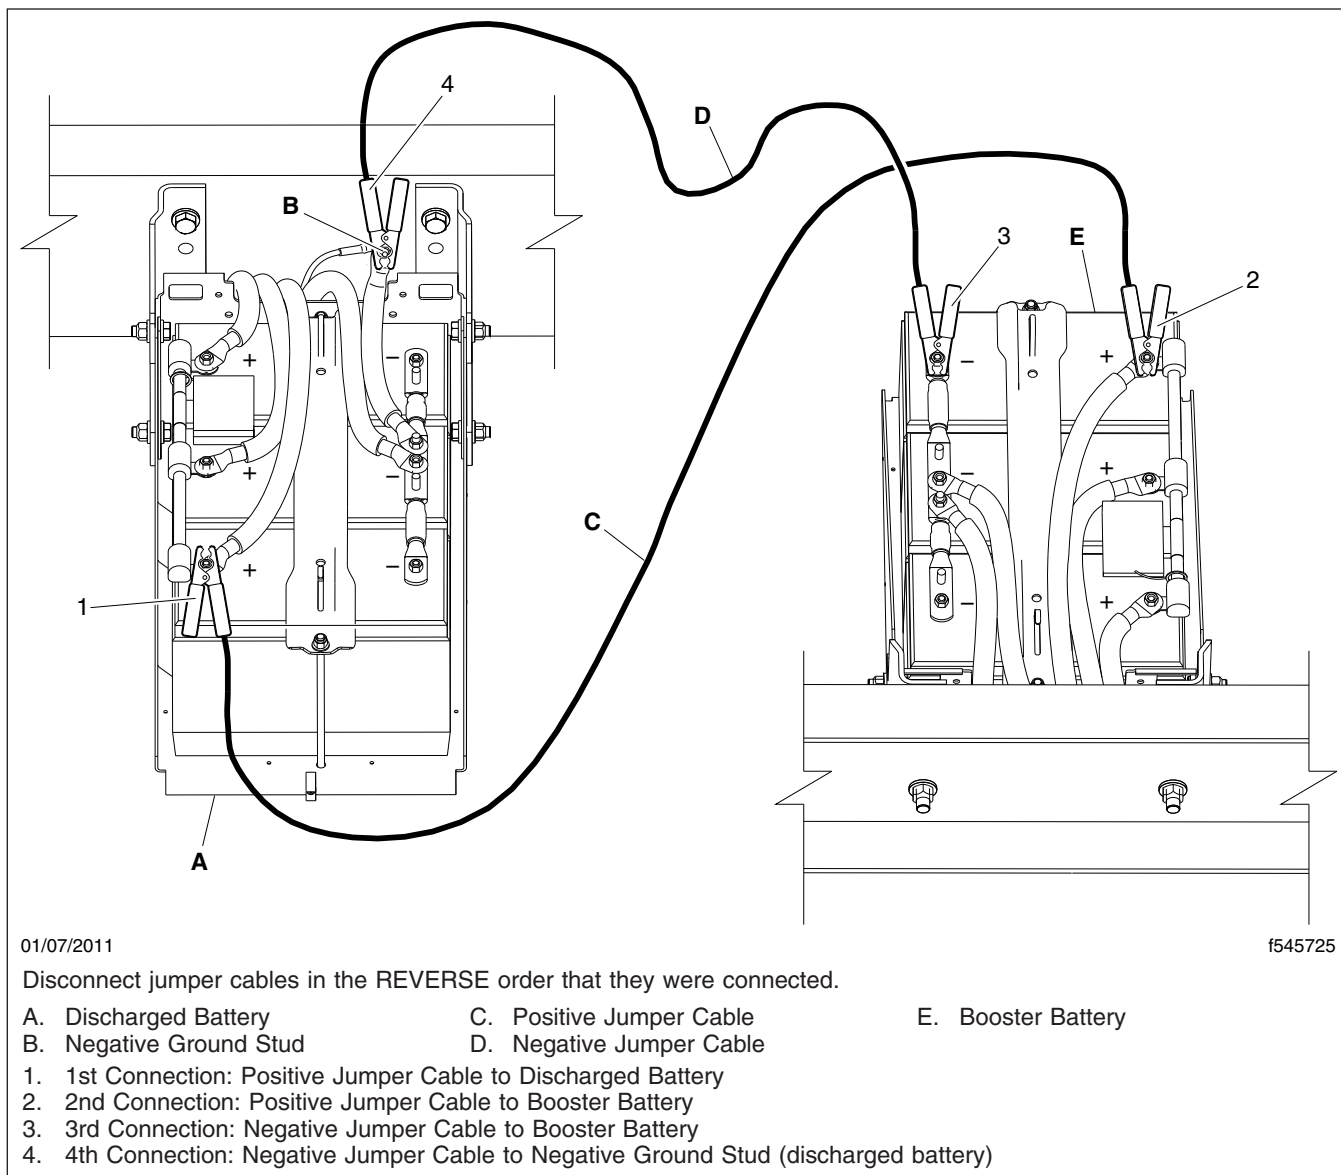

Fig. 21.5, Jumper Connections
3. Connect the positive (+) jumper cable to the positive terminal or jump start post on the discharged battery. See Fig. 21.5.